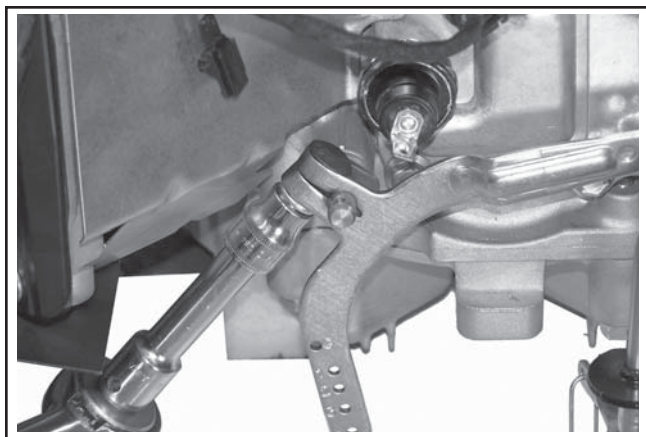

Figure 8-12. Removing Governor Lever.
3. Loosen the hex flange nut and remove the governor lever from the cross shaft. See Figure 8-12.